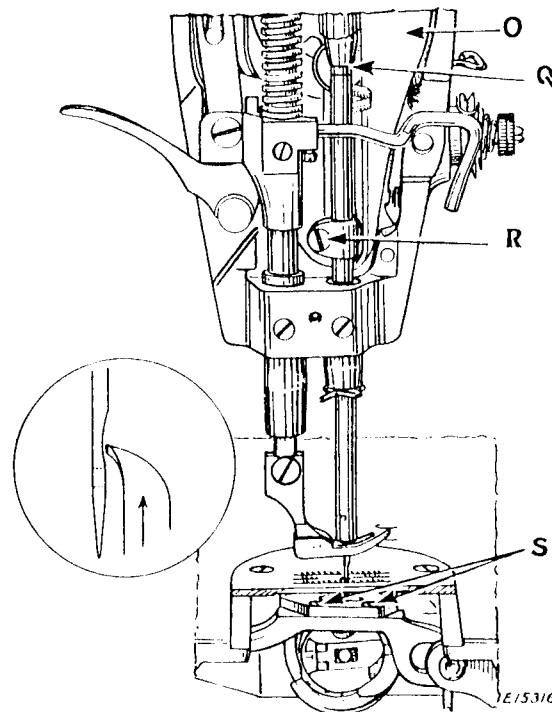

Fig. 21. Needle Bar Set at Correct Height
The needle bar has two timing marks near its upper end. Rotate the balance wheel until the needle bar moves down to its lowest position. The UPPER TIMING MARK on the needle bar should then be centered with the lower end of the needle bar bushing, as shown at Q in Fig. 21. In case the needle bar is not set at the correct height, loosen the clamp screw (R) and move the needle bar up or down until the UPPER TIMING MARK is centered with the lower end of the bushing as shown at Q, then securely tighten the screw (R).
When replacing the face plate, see that the inner oil lead overhangs the top of the take-up lever oil guard (O, Fig. 21).
Remove presser foot, slide plate, throat plate and bobbin case. Take out the two screws (S, Fig. 21) and remove feed dog.